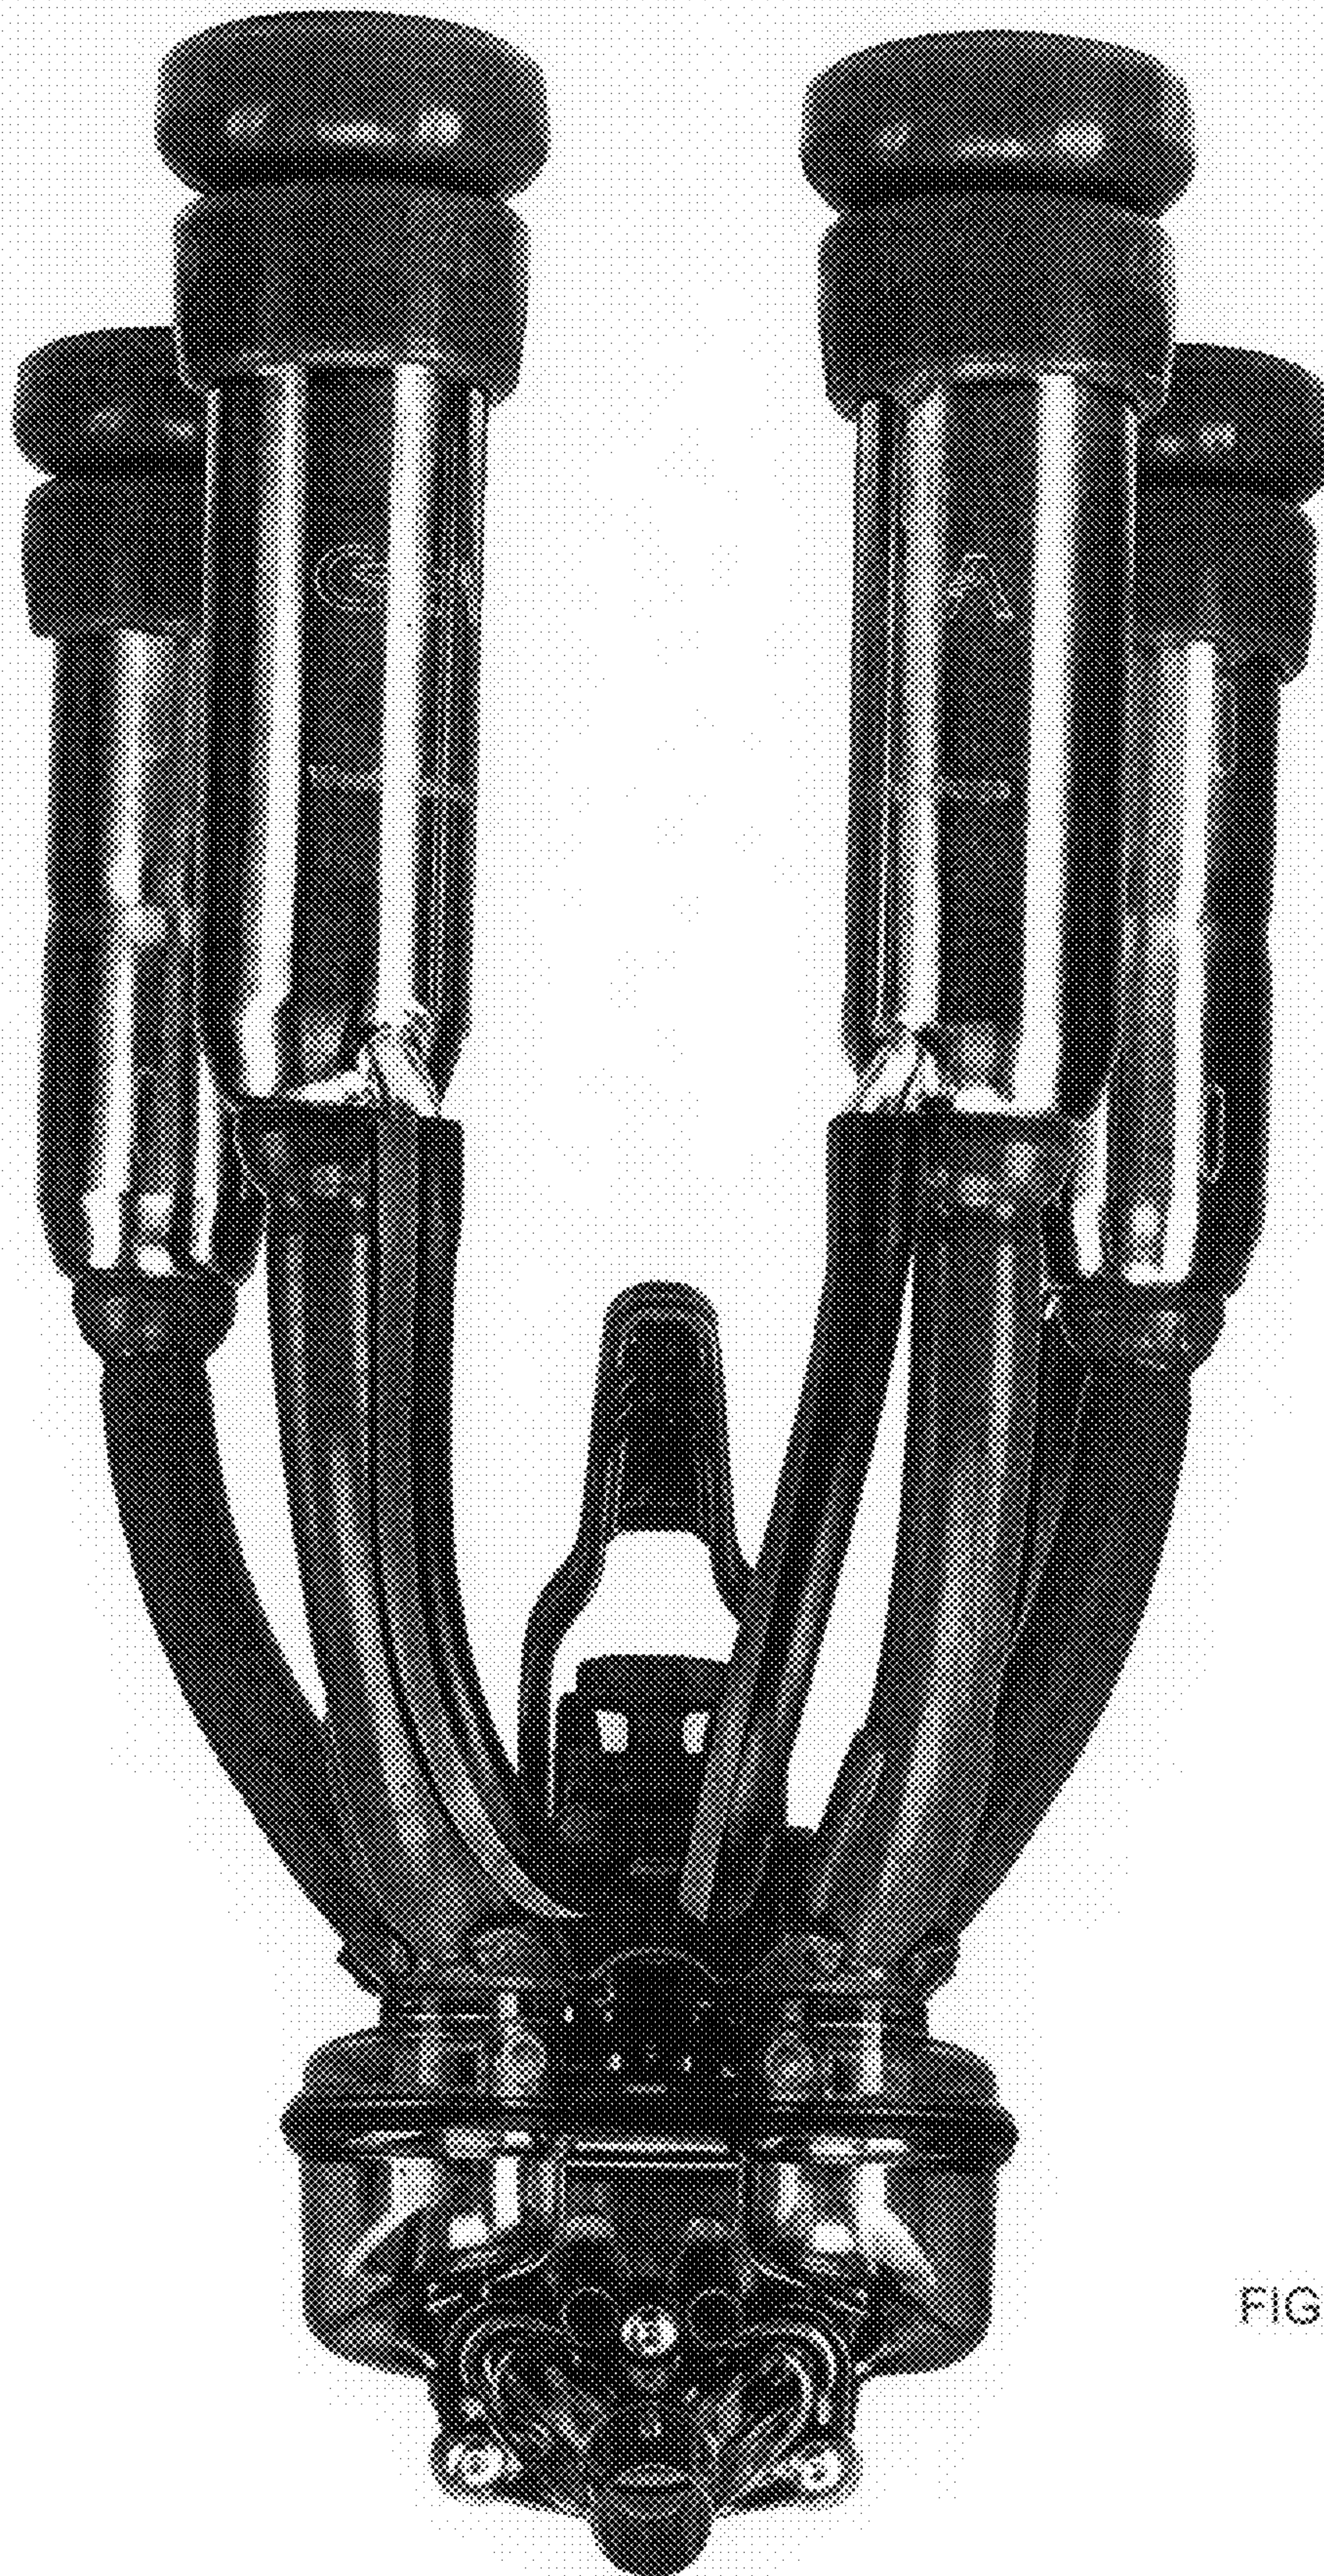

FIG. 3
- FIG. 3 is a front elevational side view of the milking machine;